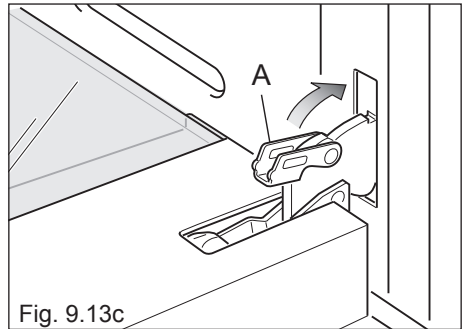

Fig. 9.13c
4. Fully close the levers “A” on the left and right hinges, as shown in the figure 9.13c.